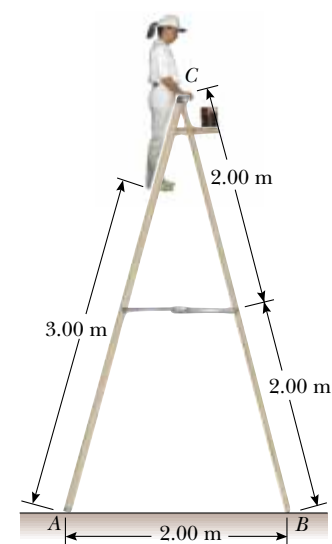

Figure P12.57
57. A stepladder of negligible weight is constructed as shown in Figure P12.57. A painter of mass 70.0 kg stands on the ladder 3.00 m from the bottom. Assuming the floor is frictionless, find (a) the tension in the horizontal bar connecting the two halves of the ladder, (b) the normal forces at A